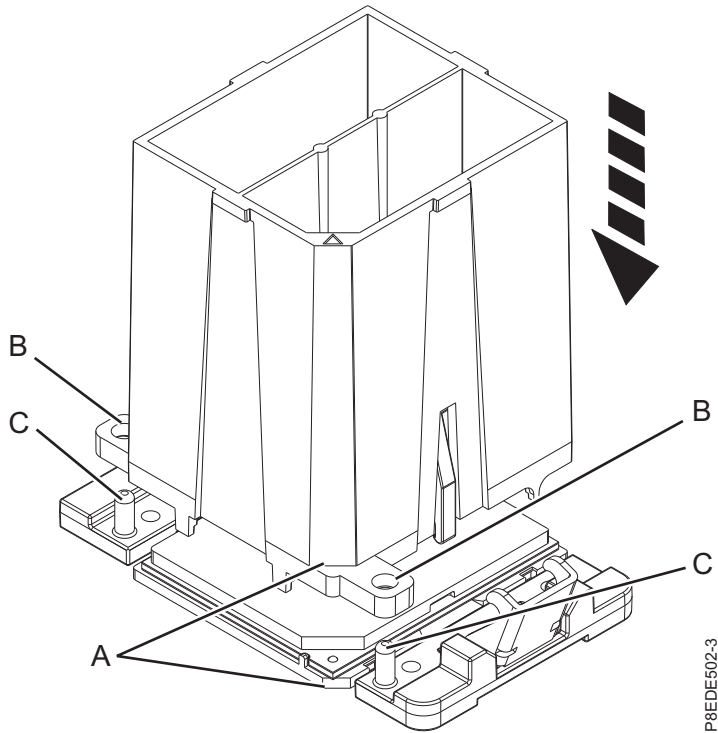

Figure 19. Lowering the removal tool onto the system processor module
- a. Using the supplied removal tool, align the beveled corner (**A**) of the tool over the beveled corner of the system processor module as shown in Figure 19 on page 22.